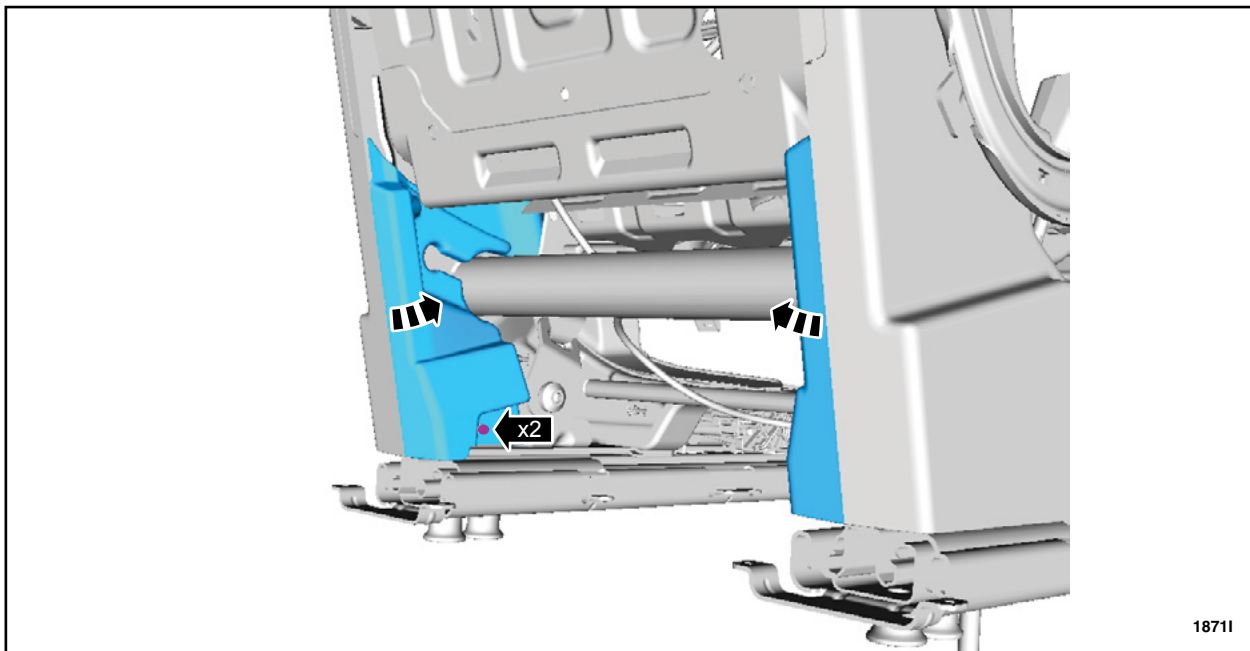

FIGURE 9
10. Remove the retainers and the inner side seat shields. See Figure 9.
22. Install the inner side seat shields and the retainers. See Figure 9.